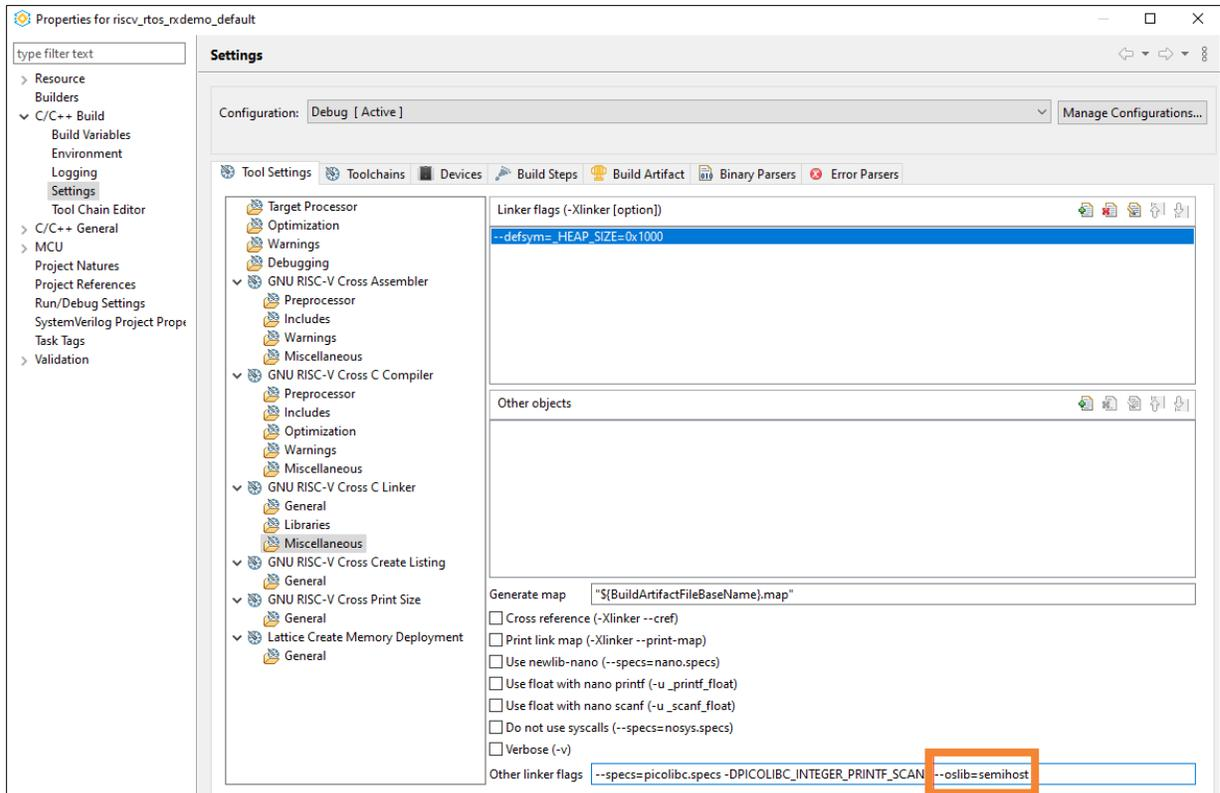

Figure 6.14. --oslib=semihost Linker Flag 1
7. Select **GNU RISC-V Cross C Linker > Miscellaneous**. Check link flags in the label, Other linker flags. Make sure the linker flag, --oslib=semihost, is supported (Figure 6.14).